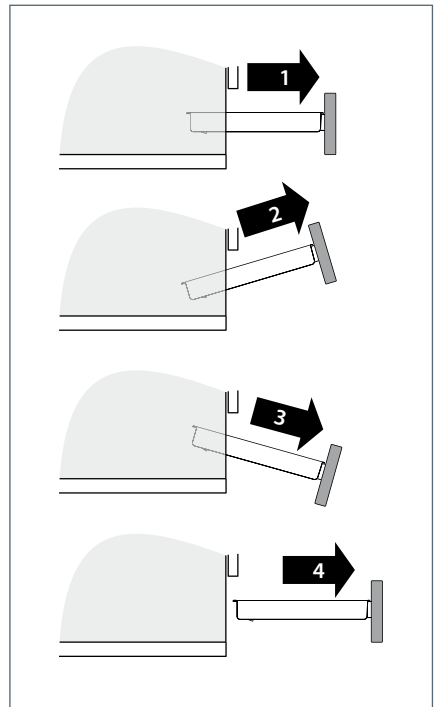

Fig.43 Removing the drawer
- To remove the drawer, proceed as per Fig. 43.